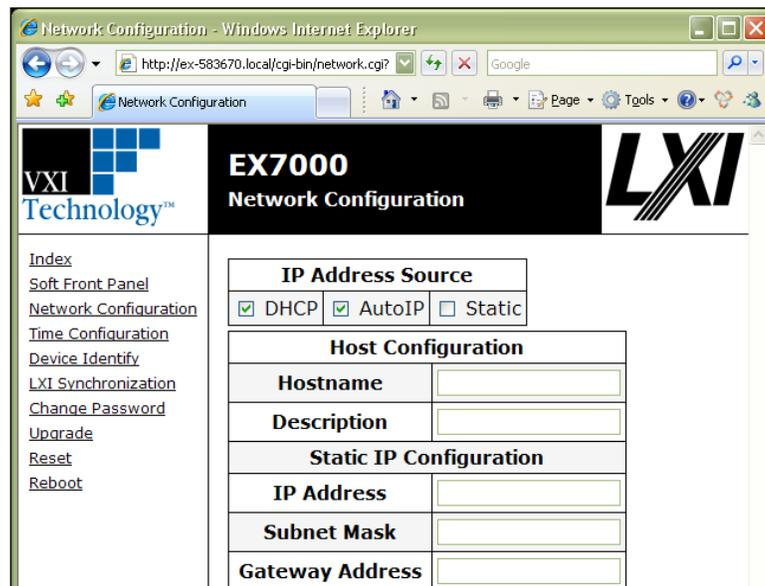

FIGURE 2-5: EX7000-OEM SET TO USE AUTO IP
- 5) Select **DHCP** and **AutoIP** in the **IP Address Source** field and ensure that **Static IP** is not selected. Figure 2-5 shows the proper configuration. Click the **Submit** button to save all changes.